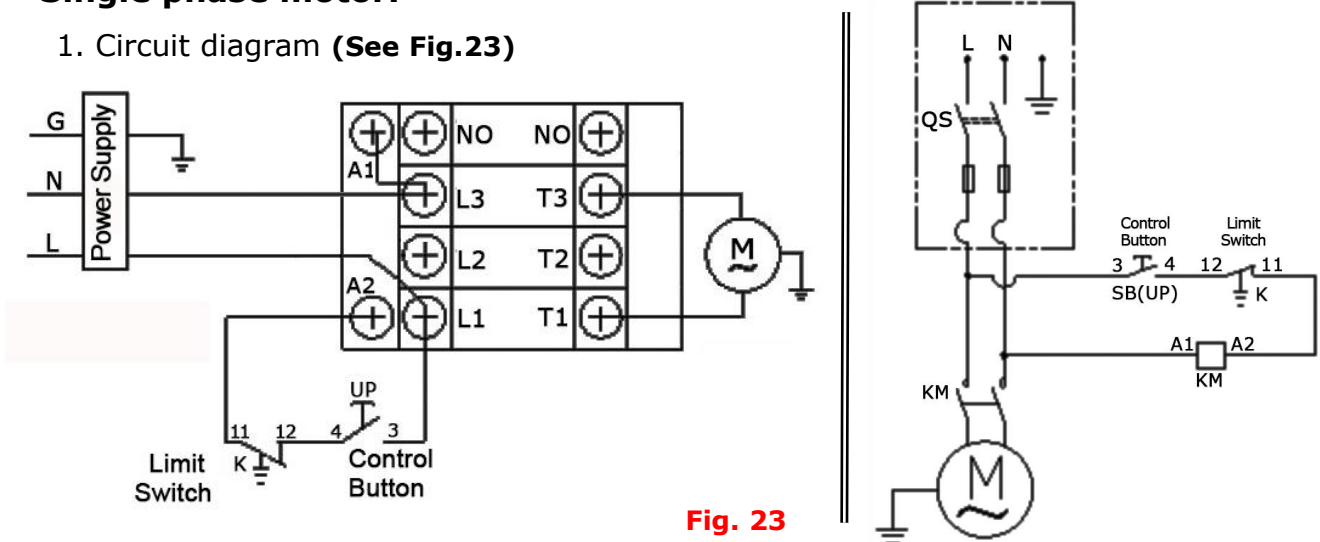

Fig. 23
1. Circuit diagram (See Fig.23)